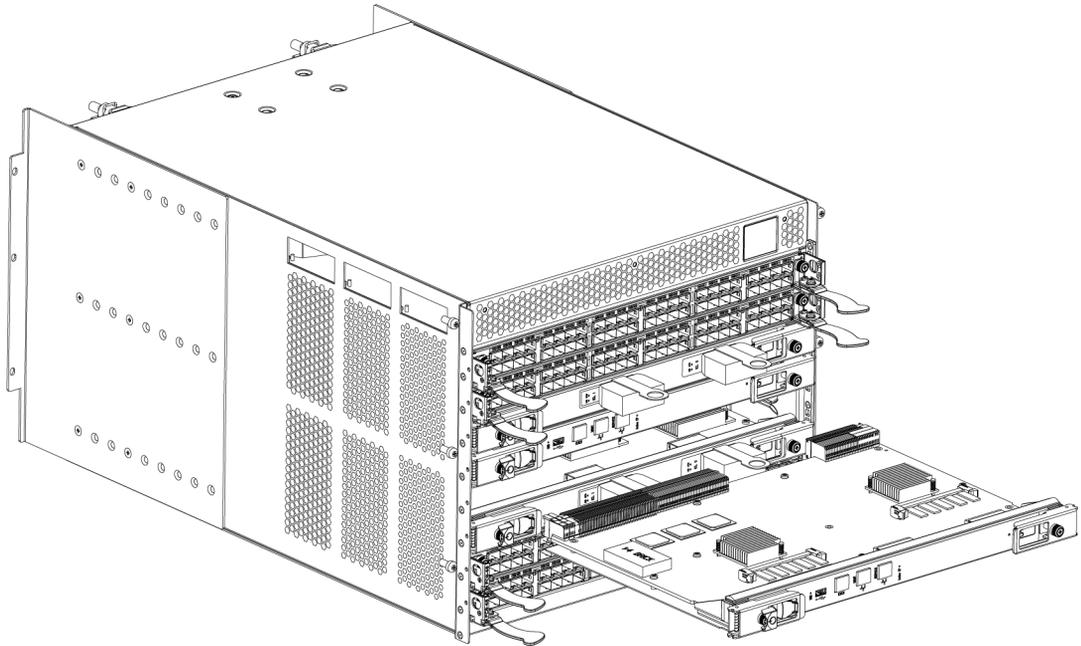

Figure 21 RRP: Control processor blade (CP8)
- Turn the CP blade off and notify the ED-DCX-4S-B of a hot swap request by sliding the slider switch in the top ejector down to the off position (Figure 21 on page 102).
4. Power off the blade by sliding the slider switch in the top ejector down to the off position (Figure 21 on page 102).
7. Lever open both ejector handles simultaneously to approximately 45 degrees and pull the CP blade out of the chassis as shown in Figure 21.